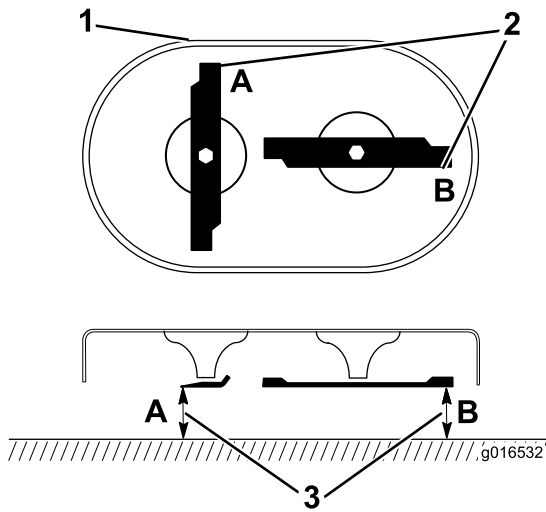

Figure 33
- Rotate the blades until they are positioned as shown in Figure 33.
2. Measure from a level surface to the cutting edges at locations **A** and **B**, (Figure 33), and record both dimensions.